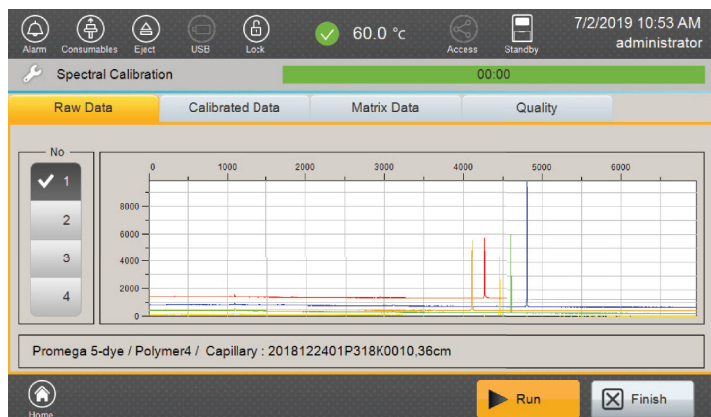

Figure 53. Spectral calibration 'Raw Data' tab screen.
- Select the 'Raw Data' tab to review the raw data for each capillary (Figure 53). Select a capillary to view from the list on the left side of the screen. Minimum peak height for a dye-labeled fragment to be considered by the algorithm is 500 Relative Fluorescence Units (RFU). Capillaries with peak heights less than this value will result in a failed spectral calibration on that capillary. Also ensure that peaks are not saturating (Maximum RFU value for raw data is 32767RFU). If peaks are saturating, dilute spectral calibration standards before repeating the spectral calibration.